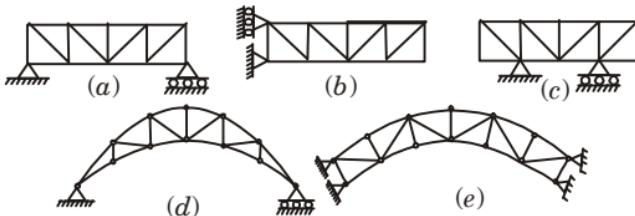

Fig. 2.1.4. Trusses-depending on the type of supports.
- 3. According to the Conditions of the Support :** It permits to distinguish between the ordinary end-supported trusses as shown in Fig. 2.1.4(a), the cantilever trusses as shown in Fig. 2.1.4(b), the trusses cantilevering over one or both supports as shown in Fig. 2.1.4(c), and finally crescent or arched trusses as shown in Fig. 2.1.4(d) and Fig. 2.1.4(e).